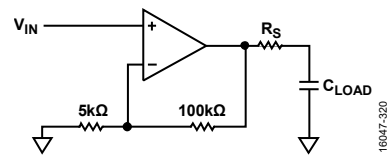

Figure 57. Circuit for CLOAD Drive
When driving a CLOAD, the amplifier output resistance and the load capacitance form a pole in the transfer function of the amplifier. This additional pole reduces phase margin at higher frequencies and, if left uncompensated, can result in excessive peaking and instability. Placing a series resistor (RS) between the amplifier output and CLOAD (as shown in Figure 57) allows the ADHV4702-1 to drive capacitive loads beyond 1 μF. Figure 58 shows the series resistor value vs. load capacitance for a maximum of 2 dB peaking in the circuit of Figure 57.
Figure 58. RS vs. CLOAD for Maximum 2 dB Peaking for Circuit from Figure 57, TA = 25°C, AV = 1, VS = ±110 V, VOUT = 100 mV p-p, RF = 0 Ω, RADJ = 0 Ω